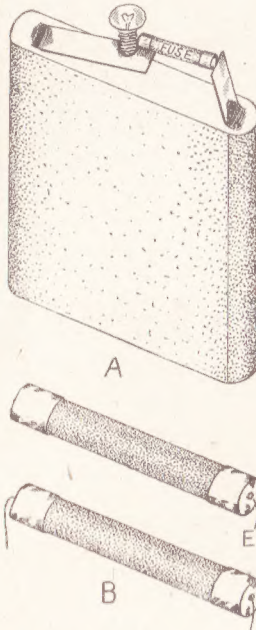

Fig. 2—Method of testing
A simple test to employ for finding the faulty fuse is indicated by view (A) Fig. 2. Use an ordinary flat type torch battery as indicated, hold the bulb with its end tip in contact with the long strip connection, and try the fuse with one end in contact with the other battery contact, and the other end touching the threaded side of the bulb, as clearly shown. If the cartridge fuse is in good condition the bulb will light up, provided, of course, the battery and bulb are sound. If, however, the fuse is faulty, the bulb will fail to light up.
Now take the faulty cartridge and make a small hole about  $\frac{1}{32}$  in. in each end, as indicated at (E) view (B) Fig. 2. The ends of the cartridge are quite soft, and the holes can easily be made with the point of a small awl or small drill held in a pin vice. Obtain some 5 amp. tinned copper fuse wire and thread a piece through the holes made in the cartridge, as indicated in view (B) Fig. 2.